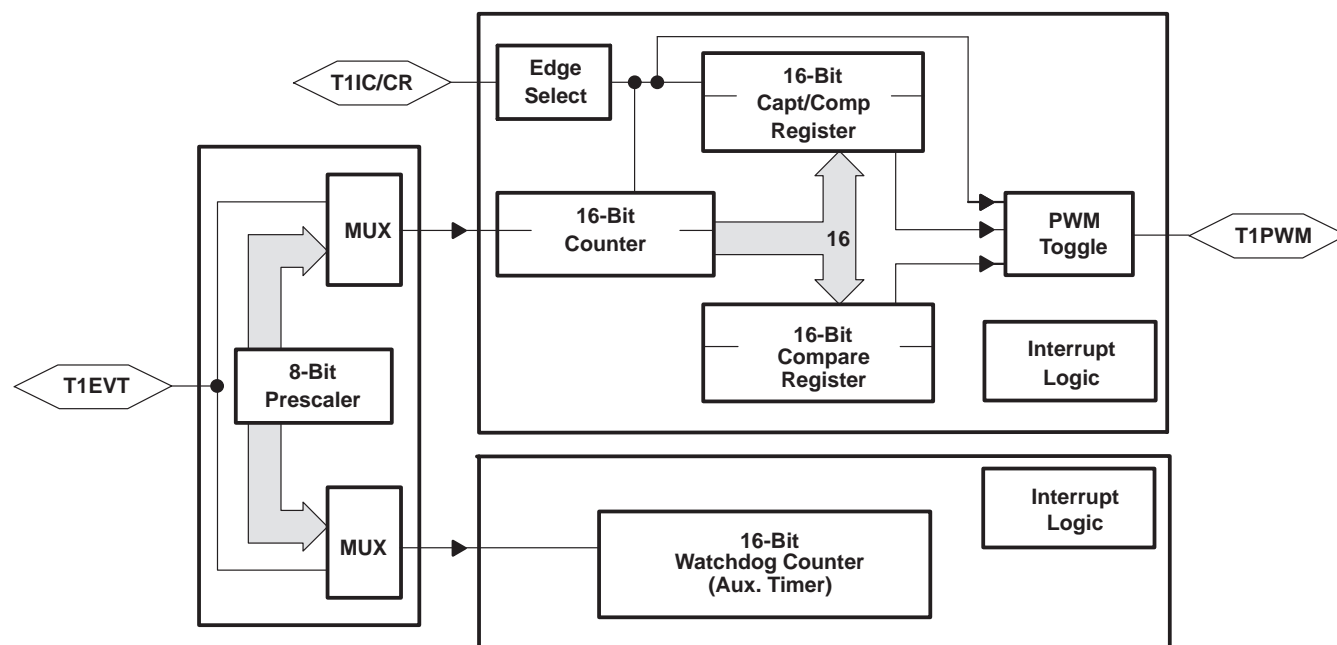

Figure 5. Timer 1 Block Diagram
The programmable Timer 1 (T1) module of the TMS370Cx0x provides the designer with the enhanced timer resources required to perform real-time system control. The T1 module contains the general-purpose timer and the watchdog (WD) timer. The two independent 16-bit timers (T1 and WD) allow program selection of input clock sources (real-time, external event, or pulse accumulate) with multiple 16-bit registers (input capture and compare) for special timer function control. The timer 1 module includes three external device pins that can be used for multiple counter functions (operation mode dependent) or used as general-purpose I/O pins. The T1 module block diagram is shown in Figure 5.